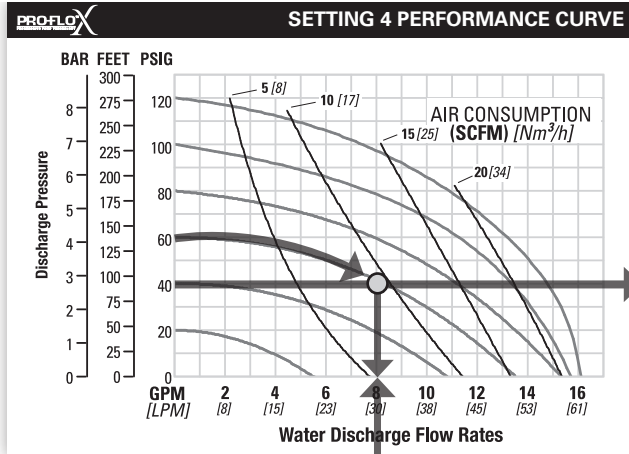

Figure 1
FIGURE 1 The air valve directs pressurized air to the back side of diaphragm A. The compressed air is applied directly to the liquid column separated by elastomeric diaphragms. The diaphragm acts as a separation membrane between the compressed air and liquid, balancing the load and removes mechanical stress from the diaphragm. The compressed air moves the diaphragm away from the center of the pump. The opposite diaphragm is pulled in by the shaft connected to the pressurized diaphragm. Diaphragm B is on its suction stroke; air behind the diaphragm has been forced out to atmosphere through the exhaust port of the pump. The movement of diaphragm B toward the center of the pump creates a vacuum within chamber B. Atmospheric pressure forces fluid into the inlet manifold forcing the inlet valve ball off its seat. Liquid is free to move past the inlet valve ball and fill the liquid chamber (see shaded area).
Step 1: Identifying performance at setting 4. Locate the curve that represents the flow rate of the pump with 4.1 bar (60 psig) air inlet pressure. Mark the point where this curve crosses the horizontal line representing 2.8 bar (40 psig) discharge pressure (Figure 1). After locating your performance point on the flow curve, draw a vertical line downward until reaching the bottom scale on the chart. Identify the flow rate (in this case, 8.2 gpm). Observe location of performance point relative to air consumption curves and approximate air consumption value (in this case, 9.8 scfm).